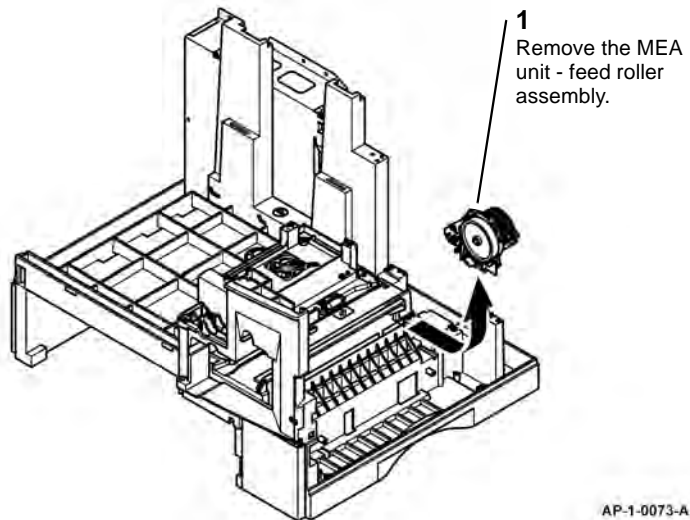

Figure 2 MEA unit - feed roller assembly removal
4. Remove the MEA unit - feed roller assembly, Figure 2.